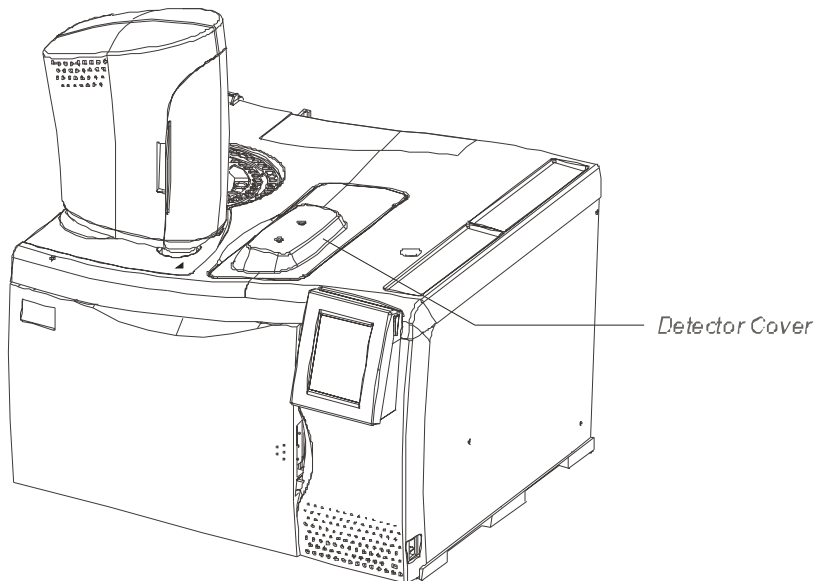
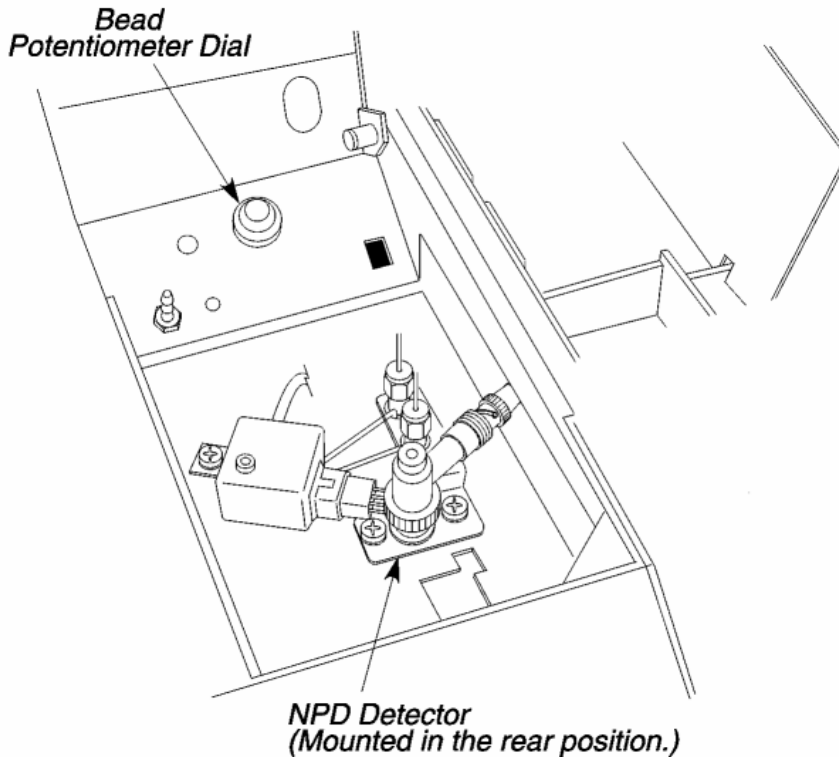

Figure 4-28. Location of the detector cover.
Figure 4-30. Location of the Potentiometer Dial.
8. Open the detector cover (see Figure 4-28) and locate the bead potentiometer dial see (the following figure).
5. Open the detector cover (see Figure 4-28) and locate the bead potentiometer dial (see Figure 4-30).